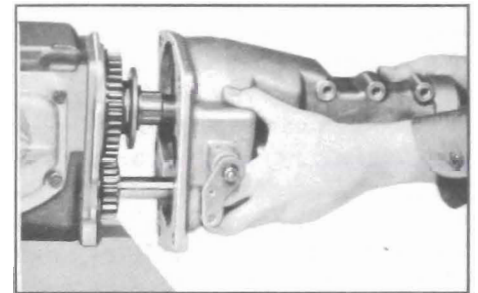

Figure 4-78—Installing Case Extension to Transmission Case
17. Place the two clutches in neutral position. Pull reverse shifter shaft to left side of extension and rotate shaft to bring reverse shift fork as far forward in extension as possible. Start the extension onto the transmission case (Figure 4-78) while slowly pushing in on the shifter shaft to engage the shift fork with the reverse gear shift collar. When the fork engages, rotate the shifter shaft to move the reverse gear rearward, permitting the extension to slide onto the transmission case.